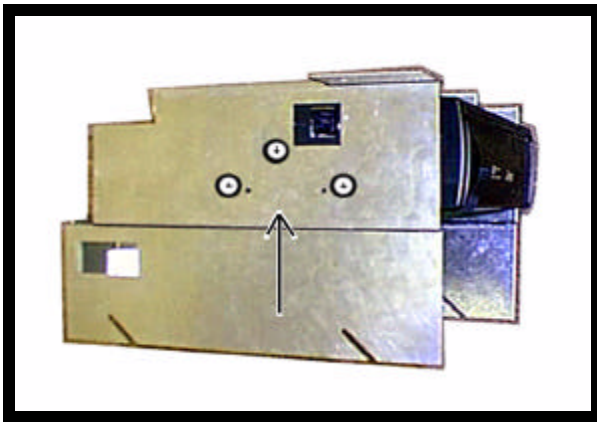

FIGURE 8
9. Remove and discard (2) two screws which secure mounting bracket (item 7 pg. 2) to housing. Insert CD changer (if equipped) into mounting bracket and secure in original manner using (6) six O.E. screws. See Fig. 8.